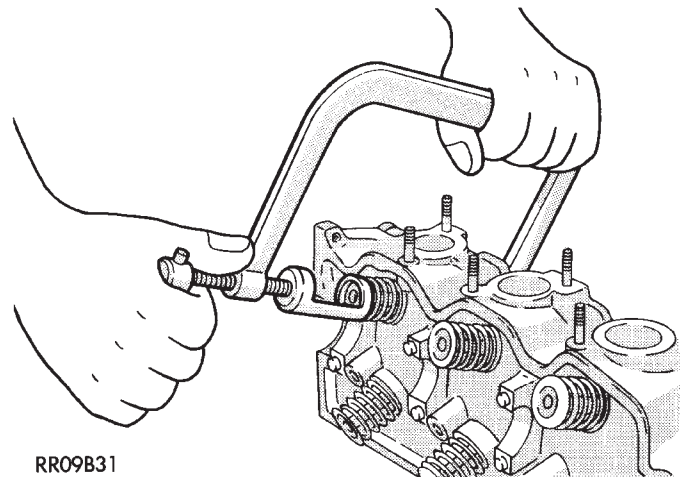

Fig. 44 Valves Removal—Typical
- (1) With valve spring compressor Special Tool C-3422B with adapter 6526 or equivalent, remove spring retainer locks, retainer, valve spring, and valve (Fig. 44).